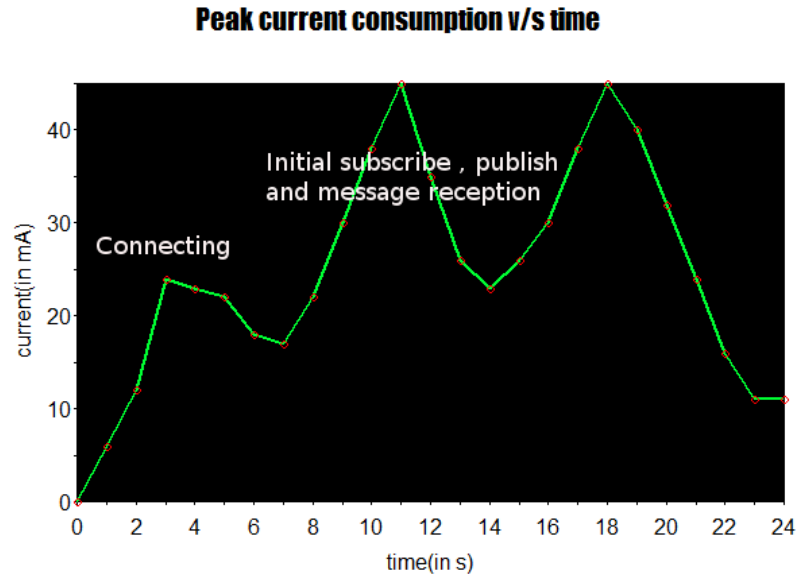

Figure 2: Peak
- Peak current consumption of the ESP8266 module during its various operations over time. Refer figure 2